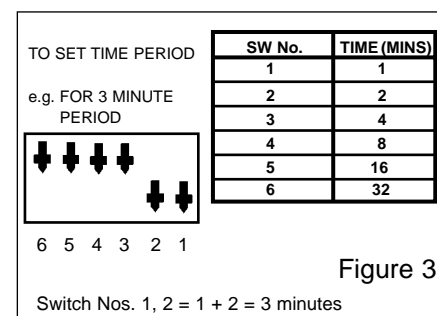

Figure 3
7. Each unit is factory preset for 4 minutes running time. If required this time setting may be adjusted by altering the switch setting on the printed wiring board located on the front panel. See figure 3.